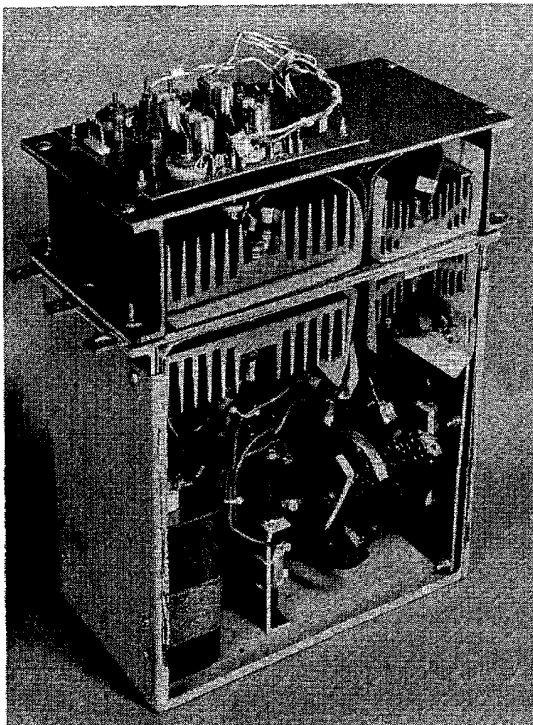

FIGURE 24
2. Stand the phase module on its back side on a table. The Pulse Transformer printed circuit card should be on top. (Normally on the front of the inverter phase module). See Figure 24.